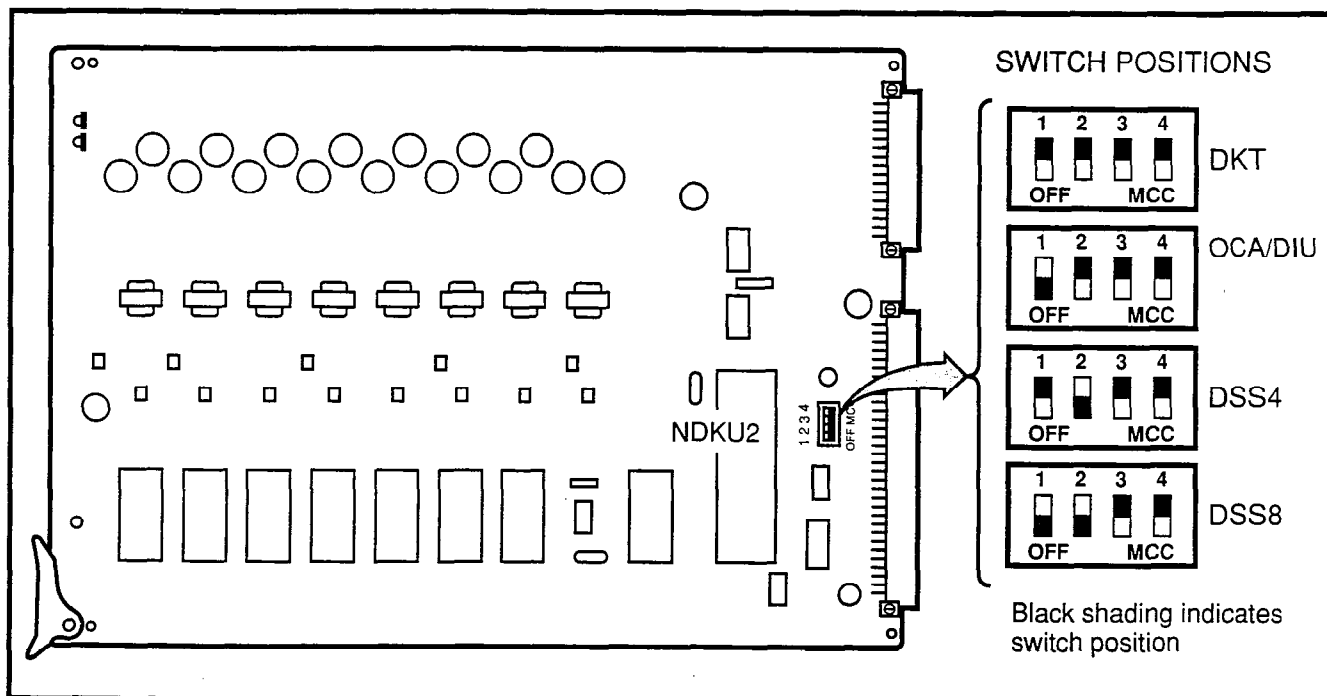

FIGURE 4-17—NDKU SWITCH OPTIONS
3.45 The NDKU employs a 2B+D architecture for each circuit that must be configured for one of four different operating options using the dip switch S1 (Figure 4-17) as follows: